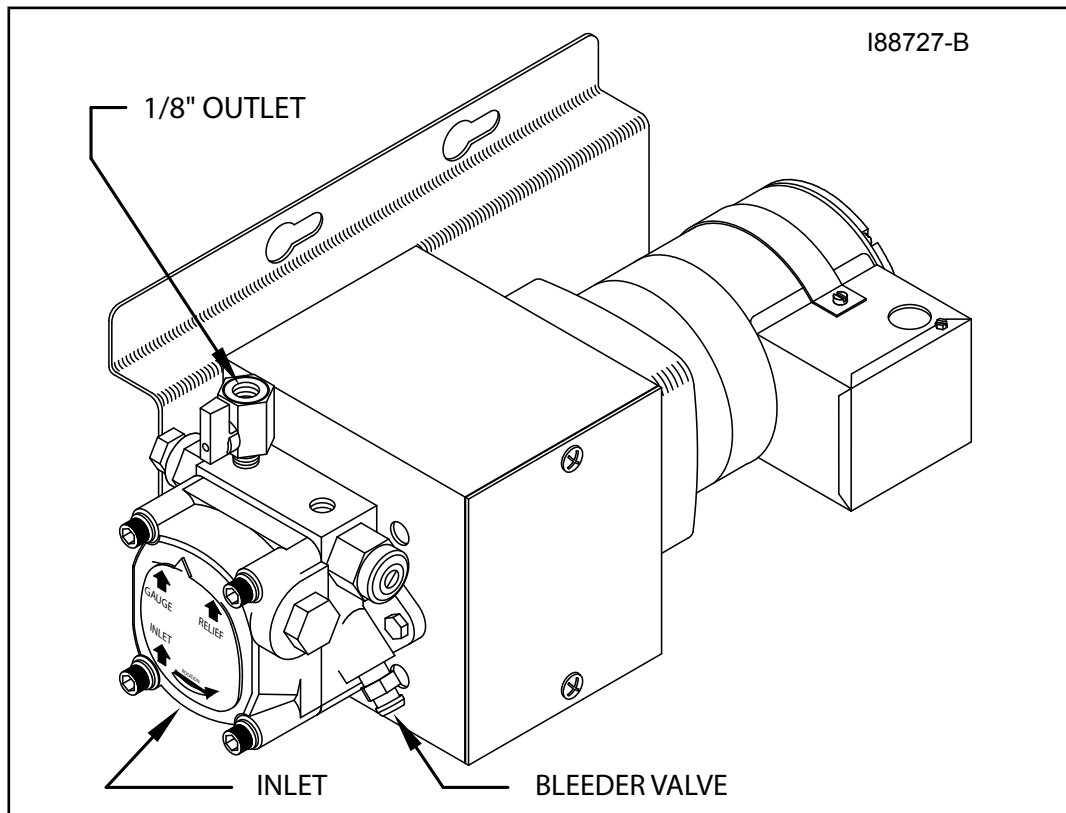

Figure 4G - Vertical Mounting of the Metering Pump
Before starting installation of the metering pump, review Figures 4G, 4H, and 4I to become familiar with the metering pump components. You will also need to accomplish the following activities:
1. Refer to Figures 4G, 4H, and 4I. Note that the metering pump is shipped with the pump head already positioned for vertical wall mounting.